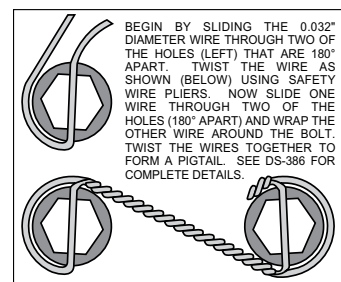

Figure 4. Safety Wire Diagram
- Identify the left and right caliper mounting brackets (1). Both brackets will be offset to the rear of the vehicle with the threaded inserts and the beveled bolt holes facing the outside of the vehicle. Apply red *Loctite*® 271 to bolt threads (2) before assembly of the caliper bracket (1) to backing plate face of spindle. Insert the three mounting bolts (2) through the caliper mounting bracket (1). Position the caliper mounting bracket (1) onto the spindle, slipping each of the three mounting bolts (2) into the threaded spindle holes, evenly finger tighten. Torque the three bolts (2) to 30 ft-lb. **NOTE:** Be sure the heads of the caliper bracket (1) insert nuts are facing outward toward the wheel.
- Install five new wheel studs (3) into the hub (4). Torque to 77 ft-lb. **NOTE:** There are two five lug patterns in the hub (5 x 4.50 and 5 x 4.75). Make sure of the correct hole pattern for the correct wheel application before installing studs into hub.
- Pack the large inner bearing cone (5) with high temperature disc brake bearing grease (available from your local auto parts store) and install into the backside of the hub (4).
- Install the grease seal (6) by pressing into the backside of the hub (4).
- Attach rotor adapter (7) to rotor (8) using six bolts (9). Apply red *Loctite*® 271 to the bolt threads (9) and torque to 25 ft-lb using a criss-cross pattern. For an added measure of security, the bolts may be safety wired using standard 0.032 inch diameter stainless steel safety wire as shown in Figure 4. Please refer to Wilwood's data sheet DS-386 (available at www.wilwood.com/Pdf/DataSheets/ds386.pdf) for complete safety wire installation instructions. **NOTE:** The flat side of the rotor (8) lugs face toward the rotor adapter (7) with the dished side of the rotor adapter (7) facing away from the rotor (8).